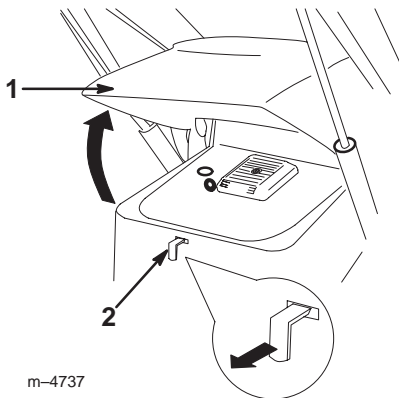

Figure 18
1. Pull out the hood latch in the front screen (Fig. 18).
2. Swing the hood up until it locks open (Fig. 18).